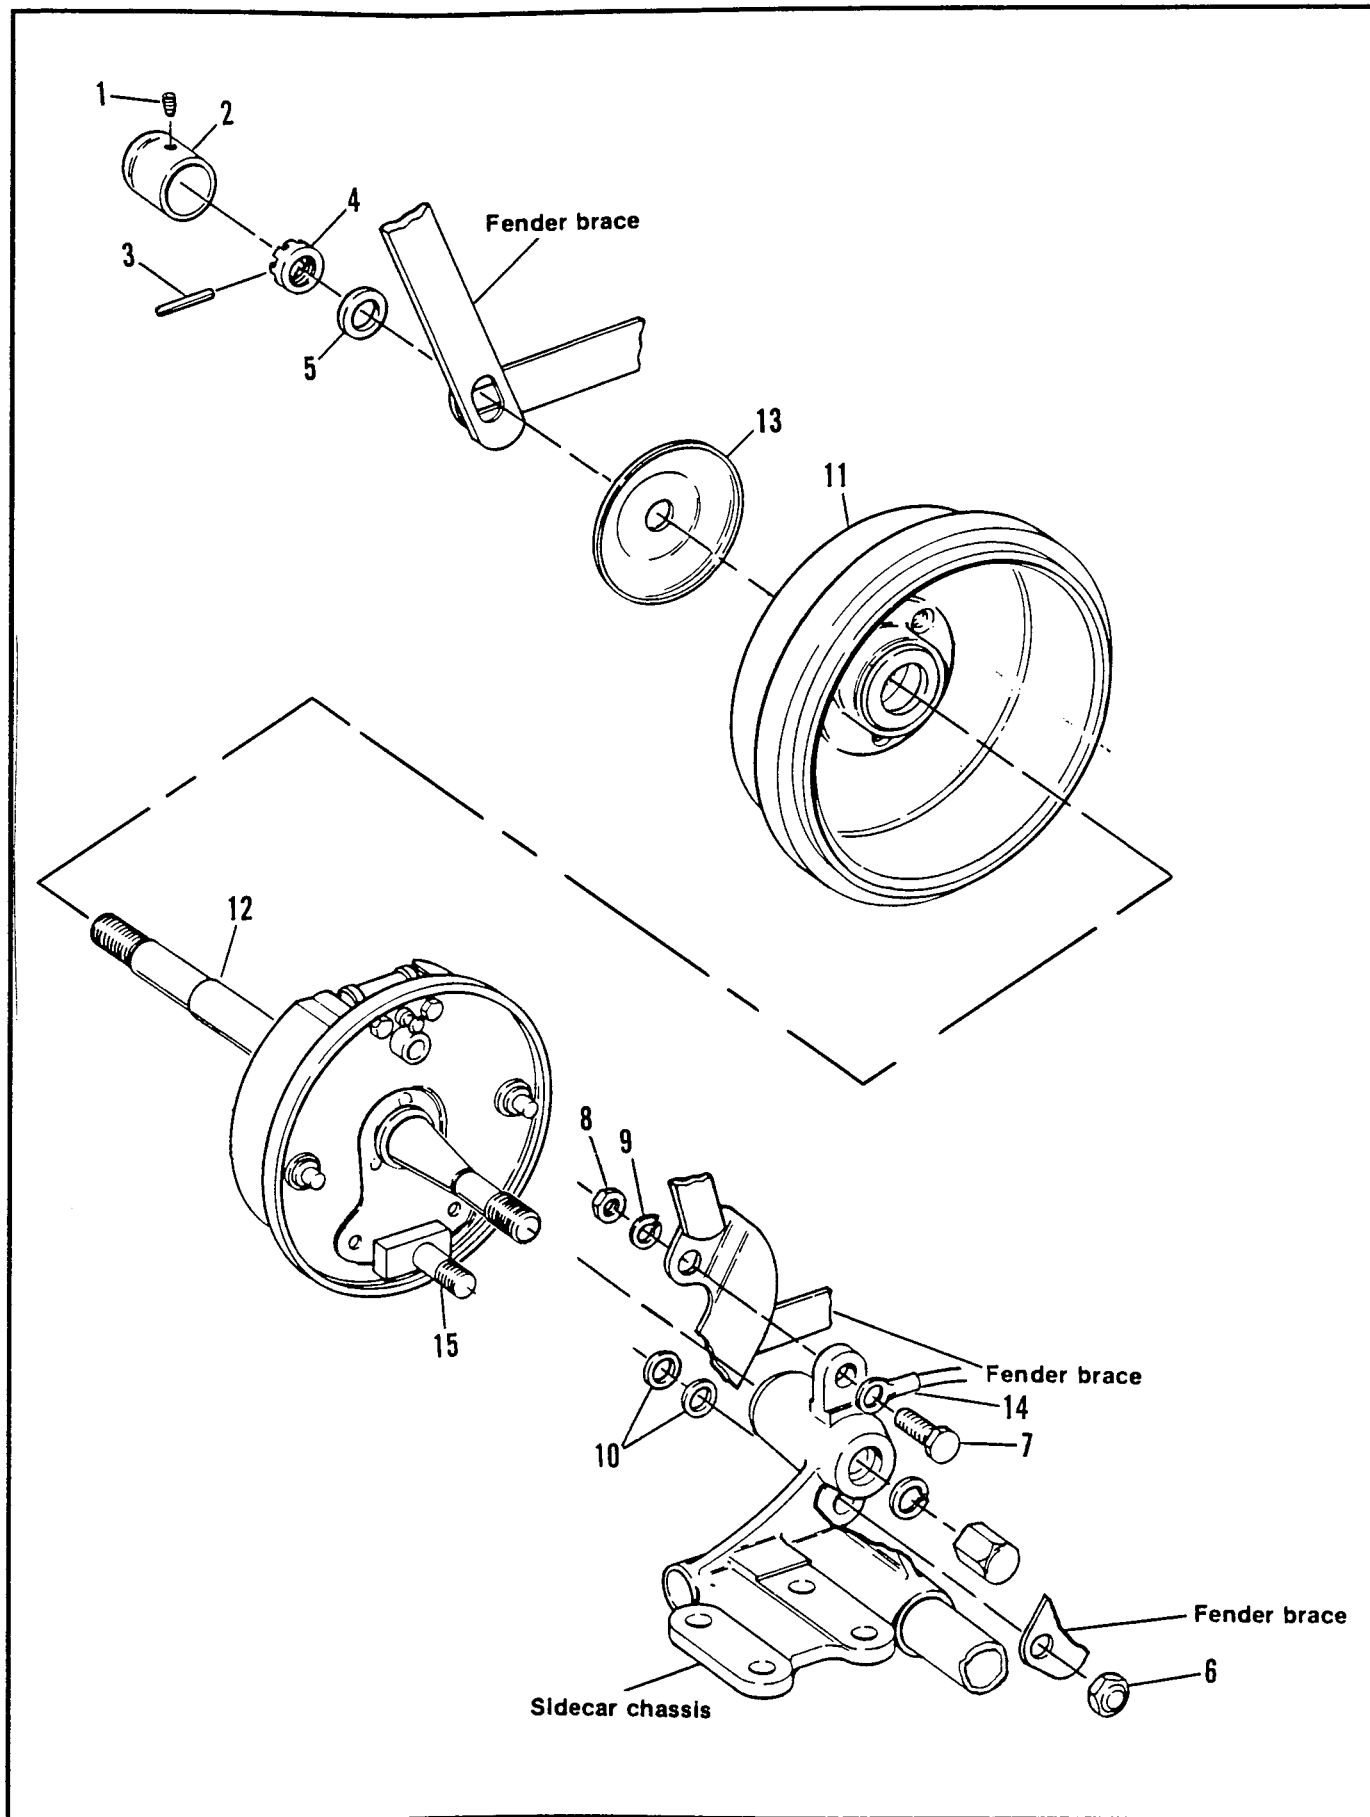
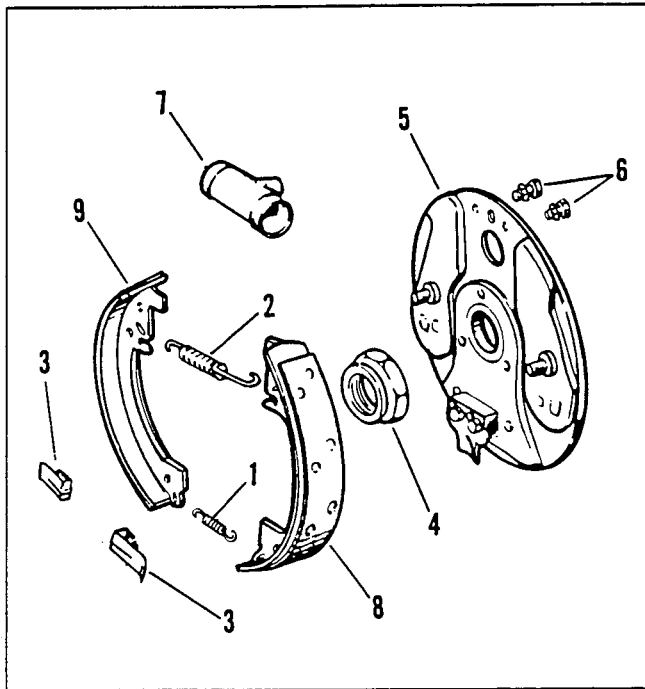

Figure 1. Wheel Assembly
Figure 2. Side Plate Assembly
2. See Figure 1. Loosen setscrew (1) in axle cap (2) .
3. Remove axle cap (2), rollpin (3) axle nut (4), and washer (5).
4. Remove locknut (6) bolt (7), nut (8) and lockwasher (9).
1. See Figure 2. Remove hold-down springs (3) and springs (1) and (2). Remove shoes (8) and (9).
2. Apply a liberal coat of penetrating oil to the threads of brake line connection at back of side plate. Disconnect brake line tubing nut from flared fitting at wheel cylinder. Remove nut (4) securing the side plate to axle. Remove side plate assembly (5) and washers (10 Figure 1).
3. Remove the two screws and lockwashers (6) attaching brake cylinder assembly to side plate.
4. Take the brake cylinder removed from original side plate and attach to new replacement side plate with screws and washers (6). Tighten screws to 50-80 in lbs torque.
5. See Figure 1. Place washers (10) on anchor stud (15). See Figure 2. Install side plate assembly on axle and thread on nut (4). Tighten nut to 20-30 ft lbs torque. Thread tubing nut onto flared fitting at wheel cylinder. Tighten nut.
1. See Figure 1. Install wheel assembly (11) on axle (12).
2. Install hub cap (13), if equipped, on axle.
3. Install fender. The outer fender braces fit over the axle. Fasten inner fender support and ring terminal (14) of directional light ground wire to the chassis with fasteners (7,8 and 9). Tighten to 24 ft-lbs torque.
4. Secure inner fender brace with locknut (6). Tighten to 85 ft lbs torque.
5. Install castle nut (4) and tighten to 38 ft-lbs torque. Insert roll pin (3) and install cap (2).